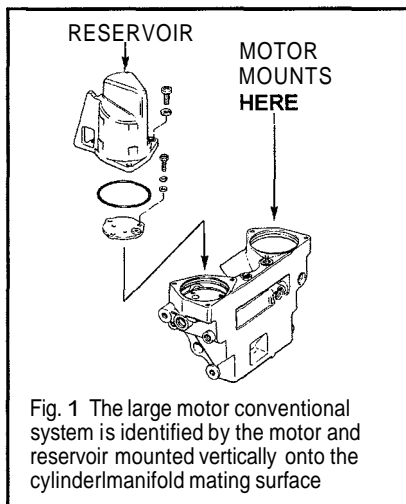

Fig. 1 The large motor conventional system is identified by the motor and reservoir mounted vertically onto the cylinder/manifold mating surface
- ◆ See Figures 1 and 2
- ◆ See Figures 1, 3 and 4